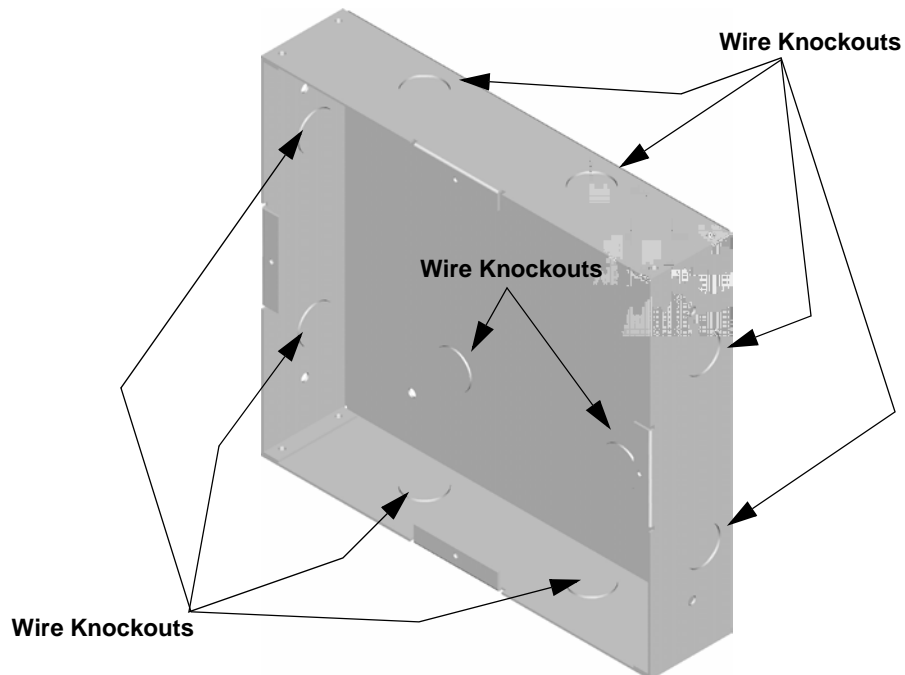

Figure 4.12 Backbox Knockout Locations
2. Remove knockout holes as needed for wires. See Figure 4.12 for backbox knockout locations.
- Remove the desired knock out. See Figure 4.12.